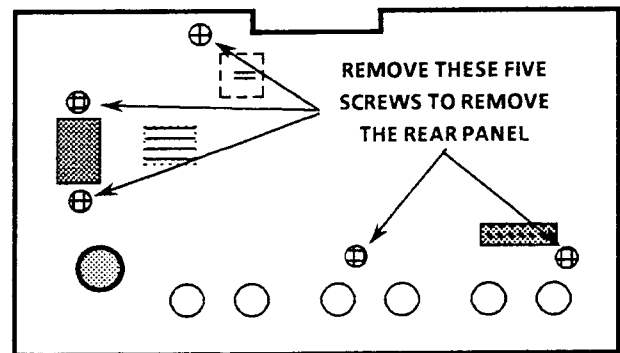

Fig. 6-8. Screws that need to be removed to remove the rear panel.
1. Remove the five rear screws. See Fig. 6-8.